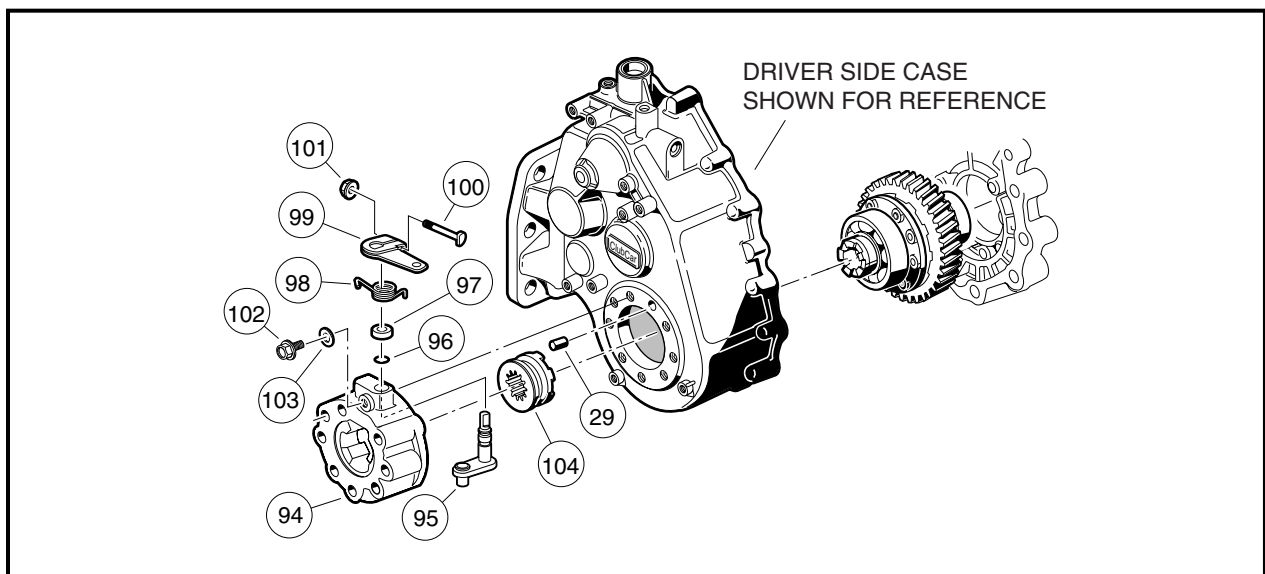

Figure 6-4 Differential Gear Case
3. Remove the differential lock housing (94) from the transaxle case (**Figure 6-4, Page 6-3**).